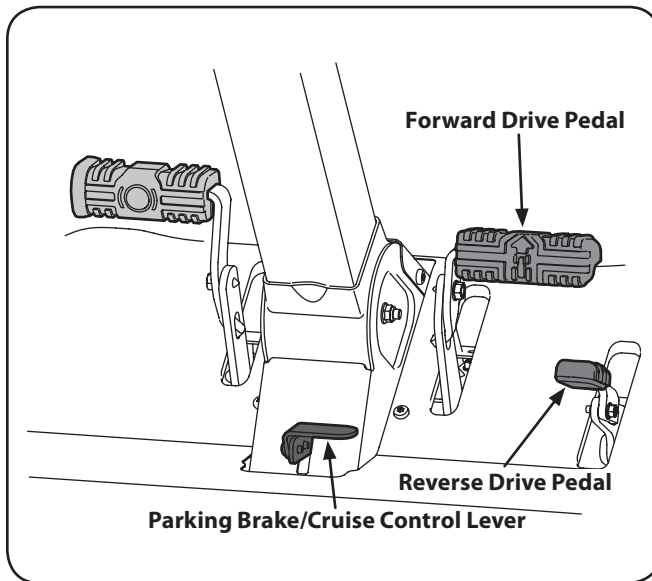

Figure 5-2
2. To travel FORWARD, slowly press the forward drive pedal  forward until the desired speed is achieved. See Fig. 5-2.
6. To travel in reverse, check that the area behind is clear then slowly push forward on the reverse drive pedal  with the ball of your foot (NOT your heel) until the desired speed is achieved. See Fig. 5-2.